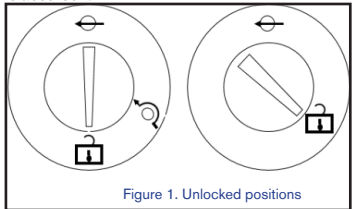

Figure 1. Unlocked positions
Step 1: Turn the locking switch to the unlocked position, as shown in Figure 1. The AbCan can now be fitted to the machine.